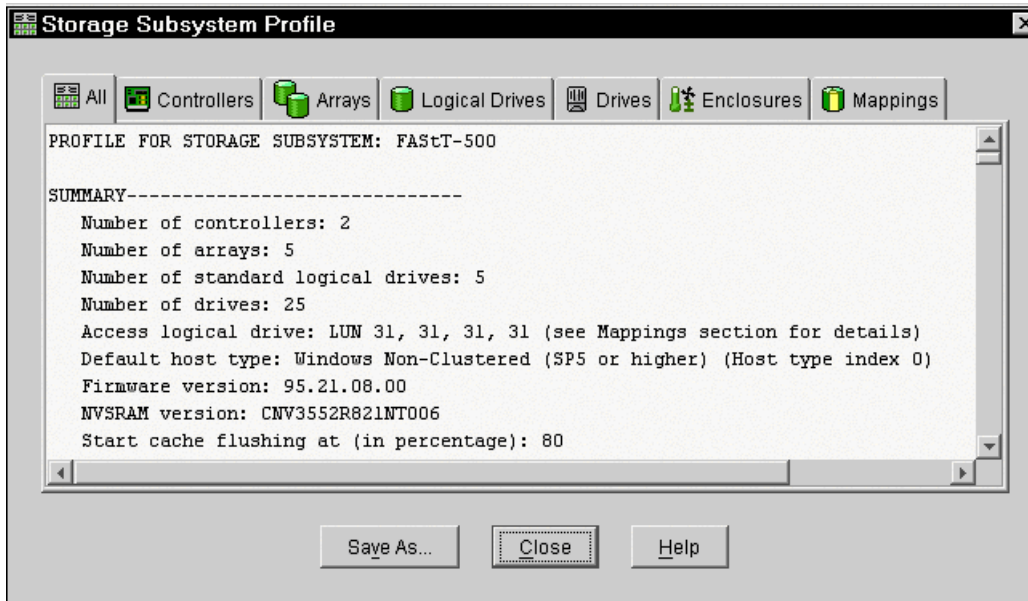

Figure 7-19 Storage Subsystem profile after the update
8. Compare the new profile with the old one. Click **View-> Profile**. Note that this is now under a different menu. A new interface opens (Figure 7-19).